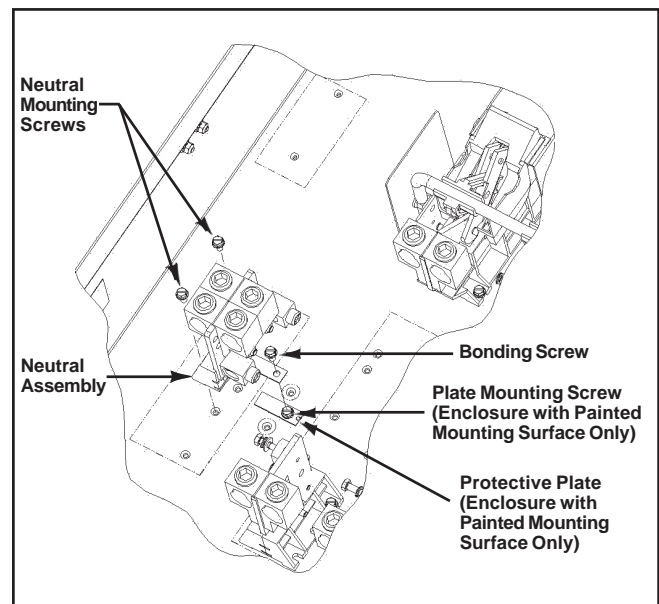

Fig. 2
- b. If mounting neutral to a painted surface, remove and discard protective plate and mounting screw to expose bare metal, see Fig.2.
4. Position Neutral Assembly over existing holes as shown in Fig. 2.
6. When bonding is required place green thread rolling screw in Bonding Strap as shown in Fig. 2, and torque to 45 - 50 lb.-ins.